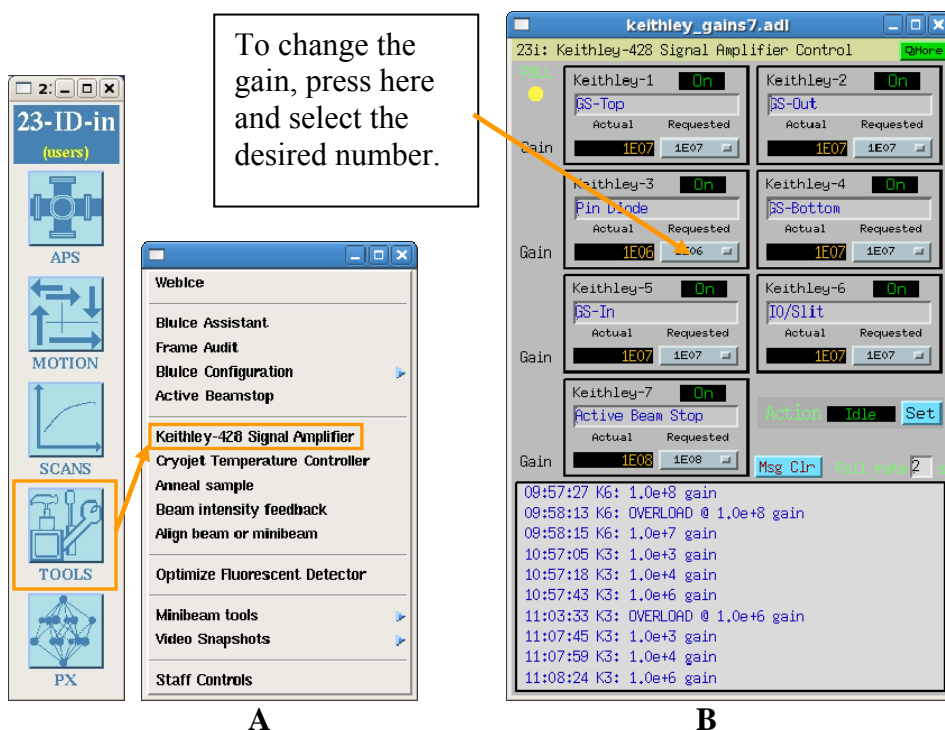

Figure 13. Remote control for Keithley gains. A) path to the control window. B) The control window itself
1. Open the Keithley control GUI (Fig.13 A)
2. Put the Keithley gain at 10^7 (Fig. 13 B)